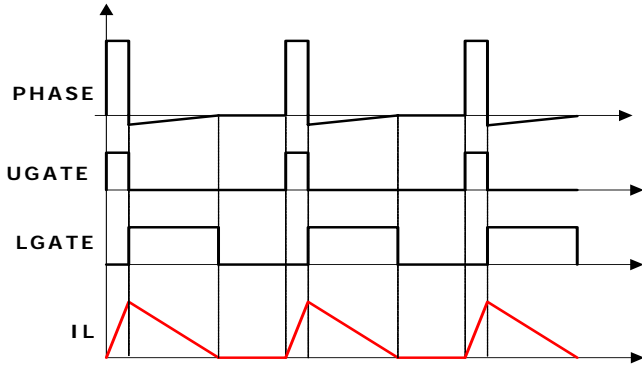

FIGURE 6. DIODE EMULATION
ISL62884C can operate in diode emulation (DE) mode to improve light load efficiency. In DE mode, the low-side MOSFET conducts when the current is flowing from source to drain and doesn't allow reverse current, emulating a diode. As shown in Figure 6, when LGATE is on, the low-side MOSFET carries current, creating negative voltage on the phase node due to the voltage drop across the ON-resistance. The ISL62884C monitors the current through monitoring the phase node voltage. It turns off LGATE when the phase node voltage reaches zero to prevent the inductor current from reversing the direction and creating unnecessary power loss.